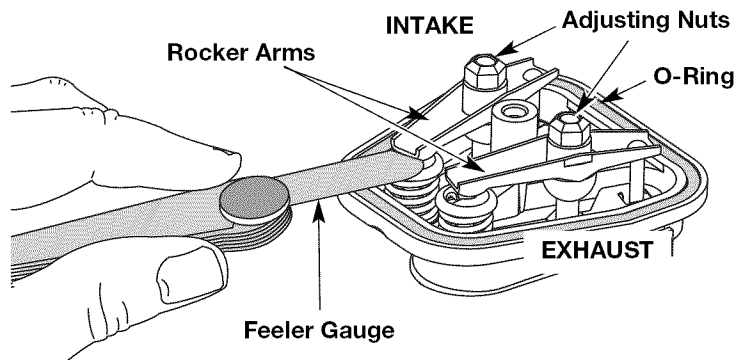

Fig. 30
- The piston is at the top of its travel by looking in the spark plug hole (Fig. 30)
7. Slide the feeler gauge between the rocker arm and the valve return spring. Measure the clearance between the valve stem and rocker arm (Fig. 30 & 31). Measure both the intake and exhaust valves.
The recommended clearance for both intake and exhaust is .003 – .006 in. (.076 – 0.152 mm). Use a standard automotive .005 in. (0.127 mm) feeler gauge. The feeler gauge should slide between the rocker arm and valve stem with a slight amount of resistance, without binding. See Figures 30 and 31.